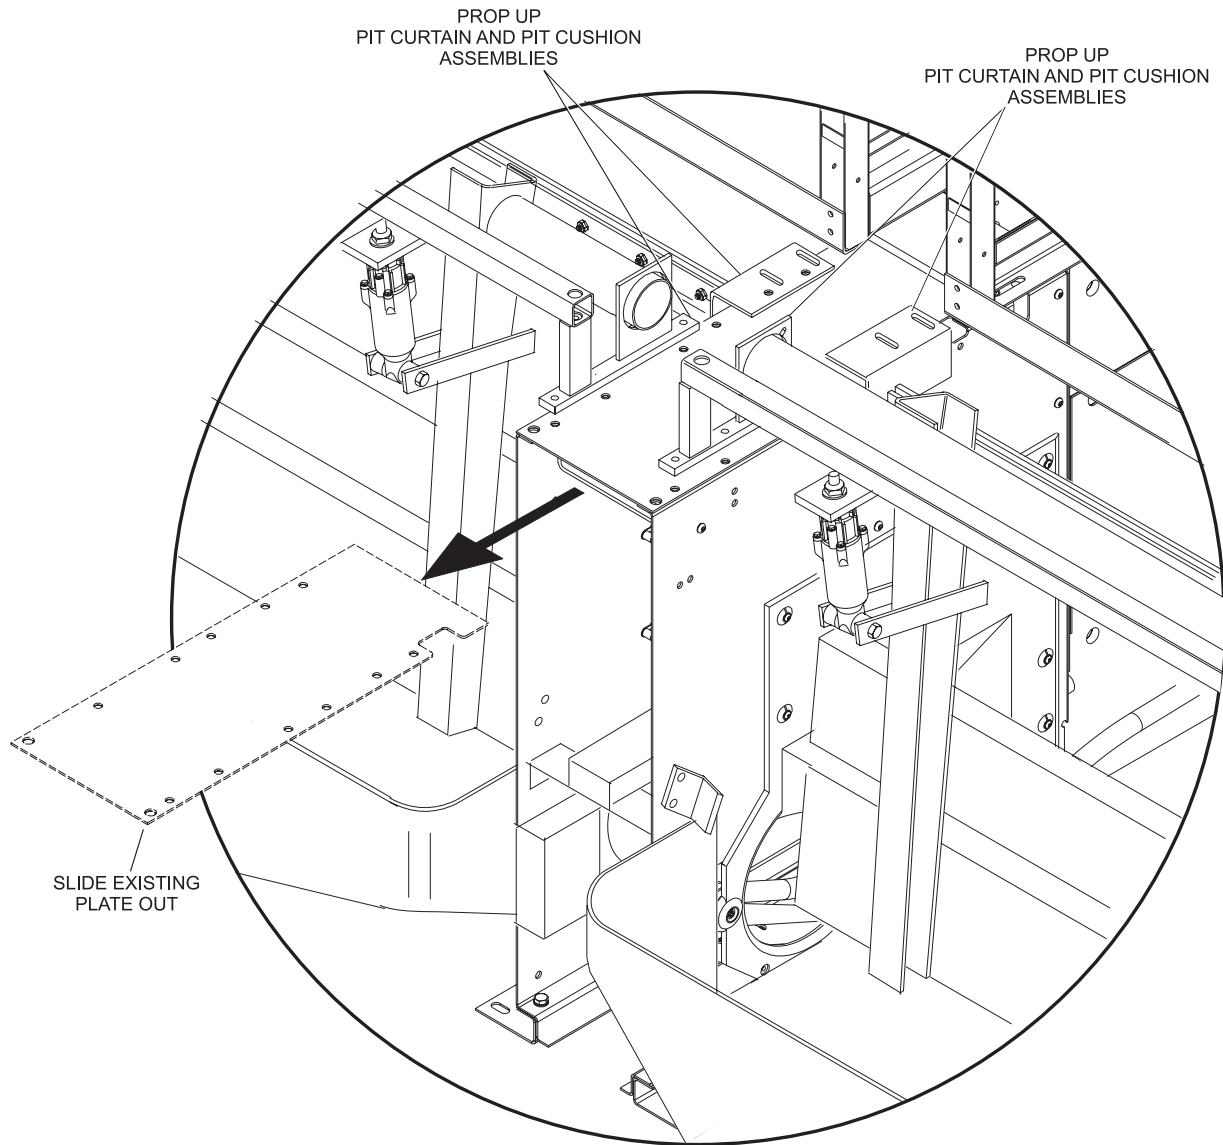

Figure 3
5. Prop up ball cushion assemblies and pit curtain assemblies and remove ball box top plate. Refer to *Figure 3*.